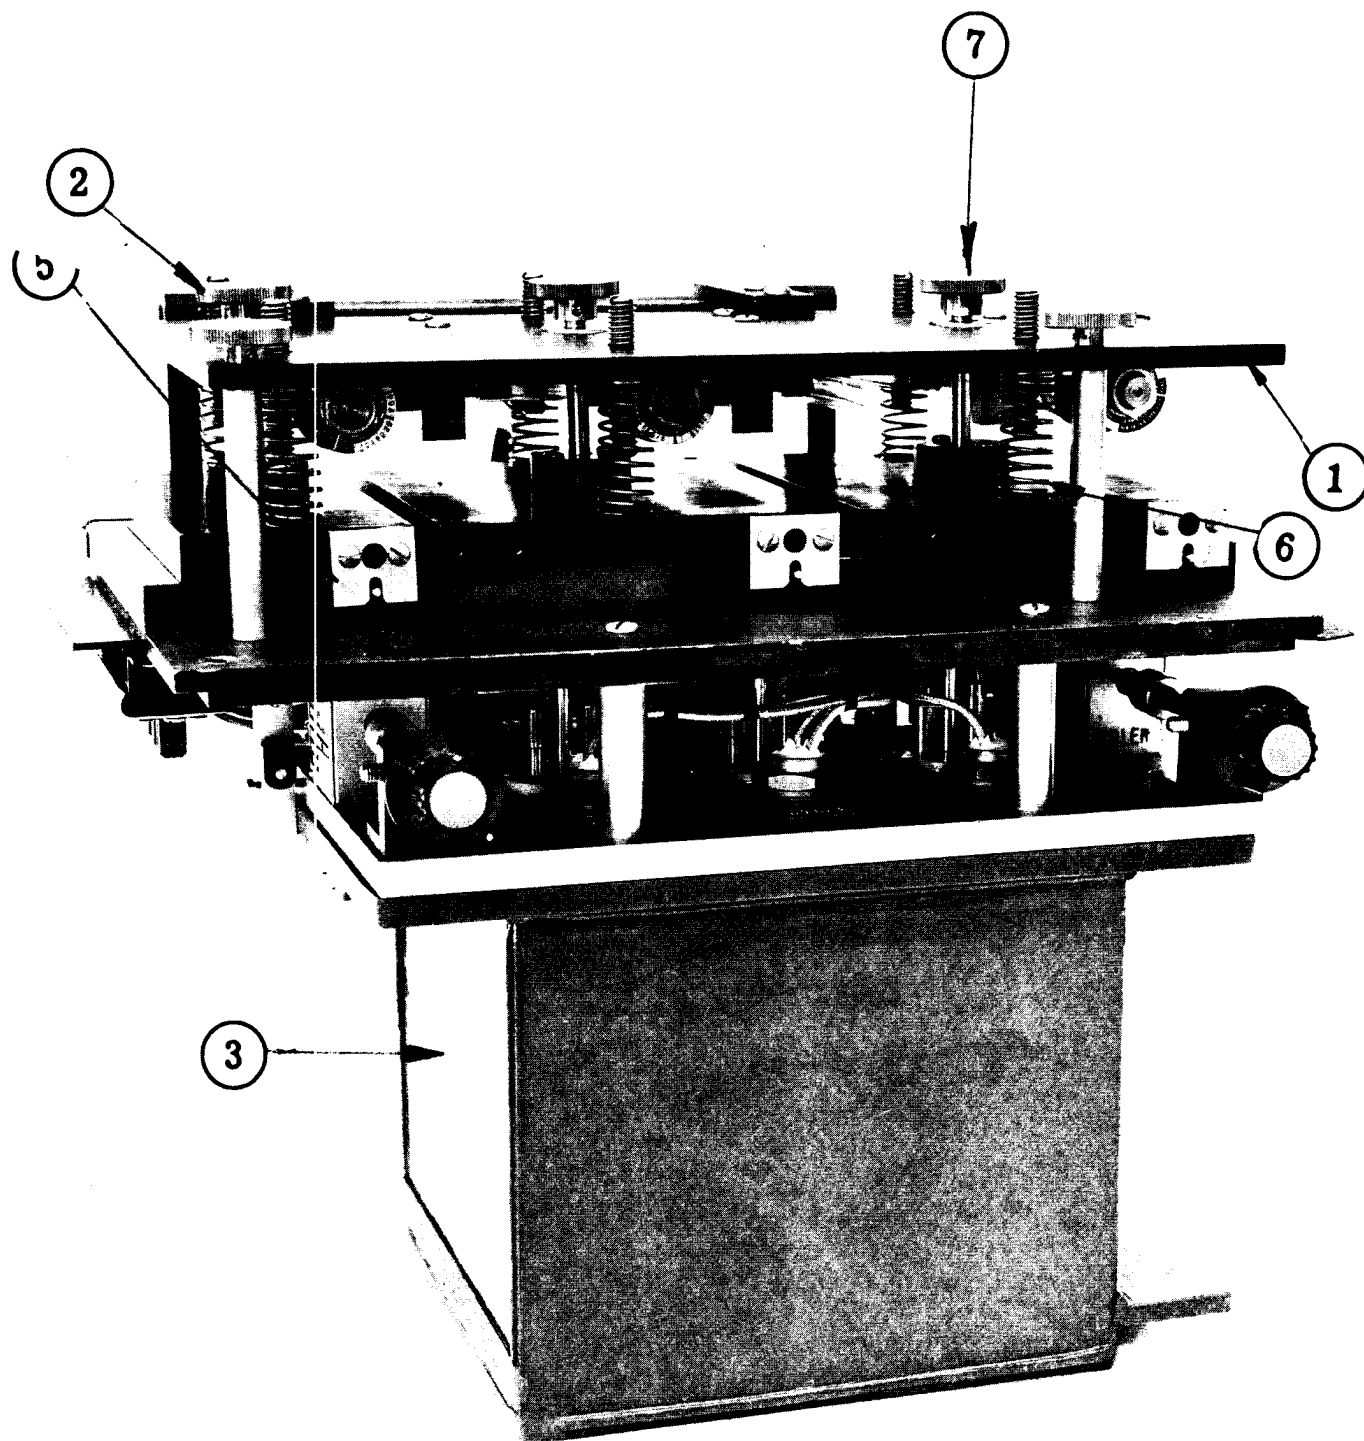
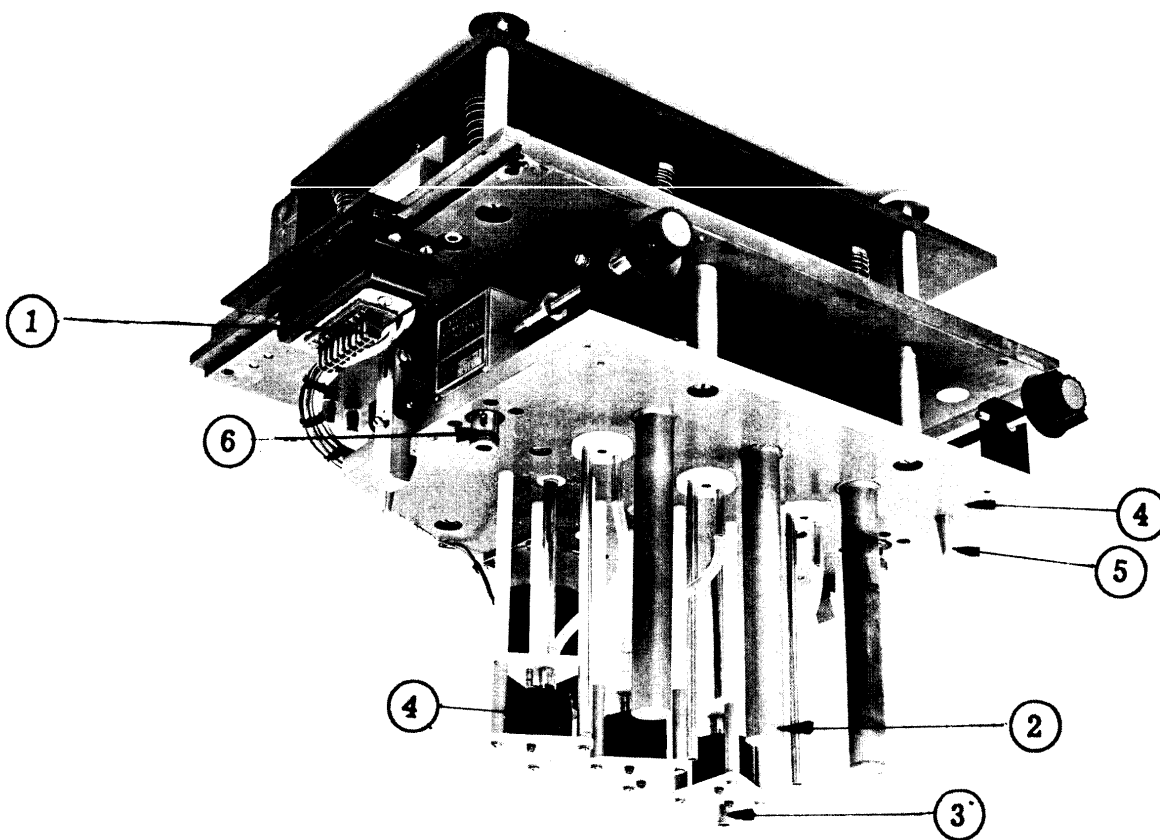

FIGURE 1-3 PROCESSING ASSEMBLY ( APPLICATORS AND TANK IN PROCESSING
FIGURE 1-5 PROCESSING ASSEMBLY (CHEMICAL SUPPLY TANKS REMOVED)
- a. Remove top dust cover using captive thumbscrews (callout 2, Figure 1-3).
- b. Retract and lock each of three applicators in a non-operative position. This is accomplished by lifting the knurled screws (callout 7, Figure 1-3) and applying one quarter turn.
- c. Release applicator assembly plate (callout 1, Figure 1-3) by turning two captive thumbscrews (callout 2, Figure 1-3) in the counterclockwise direction.
Note: Be sure 2 yokes (callout 5, Figure 1-3) on the sides of each applicator fit over locating pins (callout 5, Figure 1-5) in platen so that the spring loaded applicators are in intimate contact and "floating" on film.